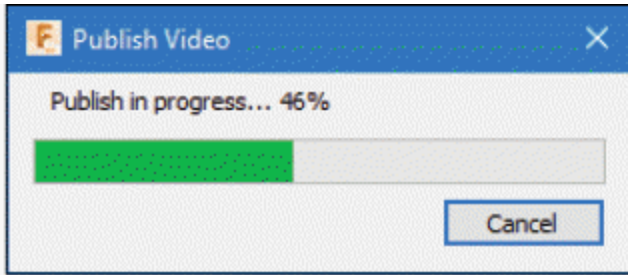

Figure-57. Publish Video progress dialog box
- After specifying the parameters, click on the **Save** button from **Save As** dialog box. The **Publish Video** progress dialog box will be displayed which tells about the progress of publishing video; refer to Figure-57.